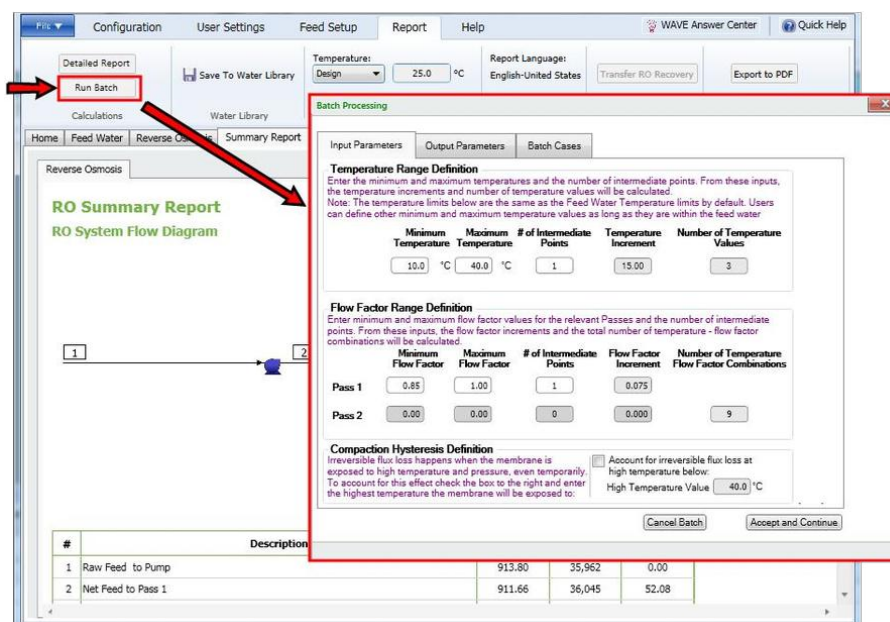

Figure 145. Running WAVE in Batch Mode: Activating Batch Mode
2. Click on the “Run Batch” button. The Batch Processing Popup Window will appear (Figure 145).